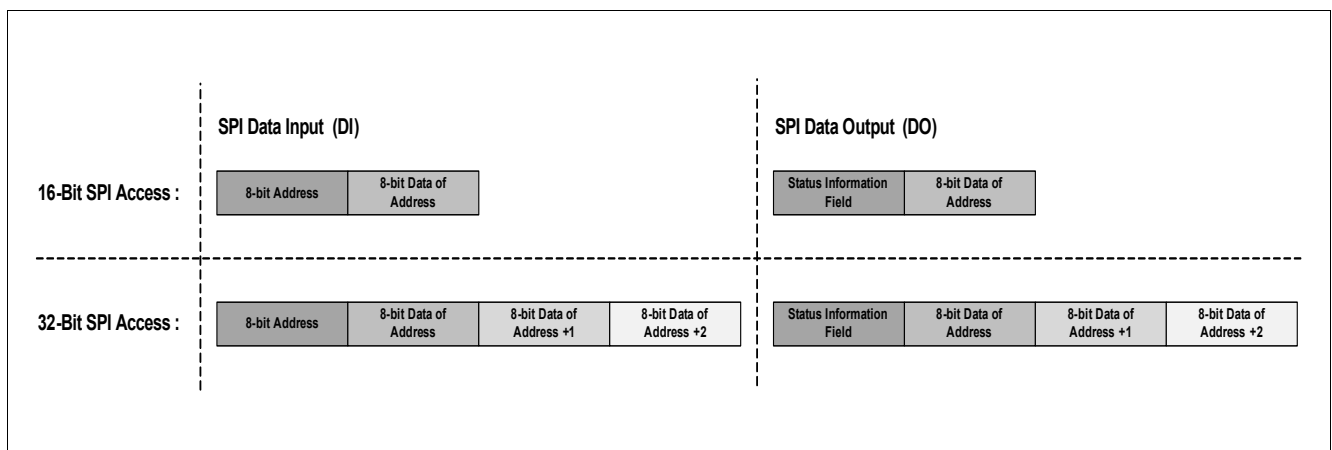

Figure 46 Data access for 16- and 32-bit SPI commands
The TLE9461-3ES V33 is supporting multi-slave operation in full-duplex mode with 16-bit and 32-bit data access (see also Figure 46).
The operation of the 16-bit and 32-bit SPI data access is shown in Figure 46.
- The numbering of following bit definitions refers to the data byte and correspond to the bits D0...D7 and to the SPI bits 8...15. In case of 32-bit SPI commands, the data bytes from the next valid address are accessed (see also Figure 46).